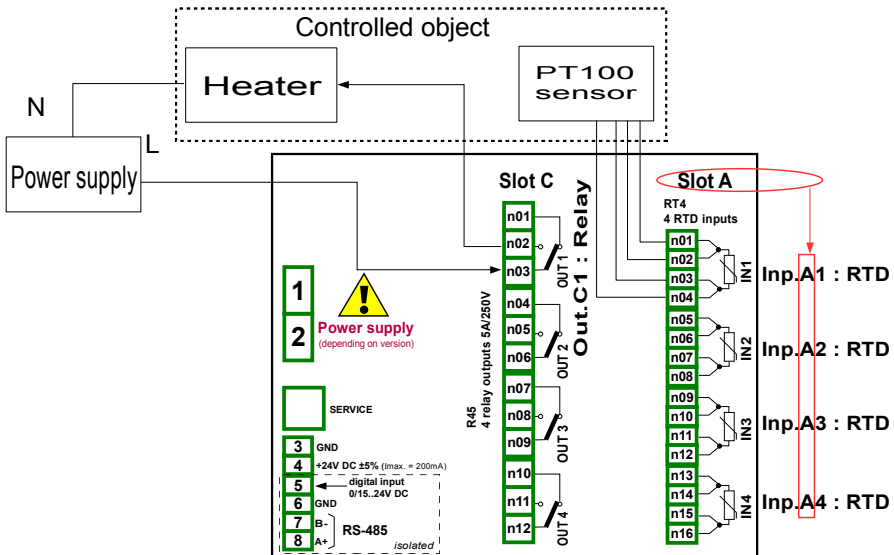

Fig. 7.91. Schematic diagram for the RTD input and Relay output modules
First configure the device as described below, then connect the object and power supply as shown on **Fig. 7.91**. See also **Appendix 8.7. RT4 , RT6 – RTD MEASUREMENT MODULES**.
To control temperature in object shown on **Fig. 7.91**, it is necessary to configure one **Logical channel** and **Relay output**.
- **Source** parameter set as **Inp.A1 : RTD** (see **Fig. 7.91**),
- using the arrows in the top navigation bar, select a relay output which is connected to heater. For this example it is the output named Out.C1 : Relay (see **Fig. 7.91**),